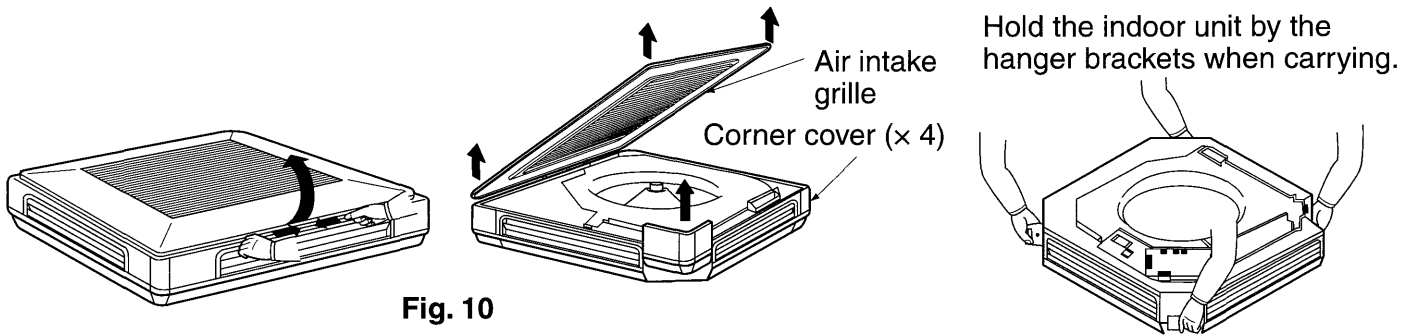

Fig. 10
- Detach the air intake grille. (Refer to Fig. 10)